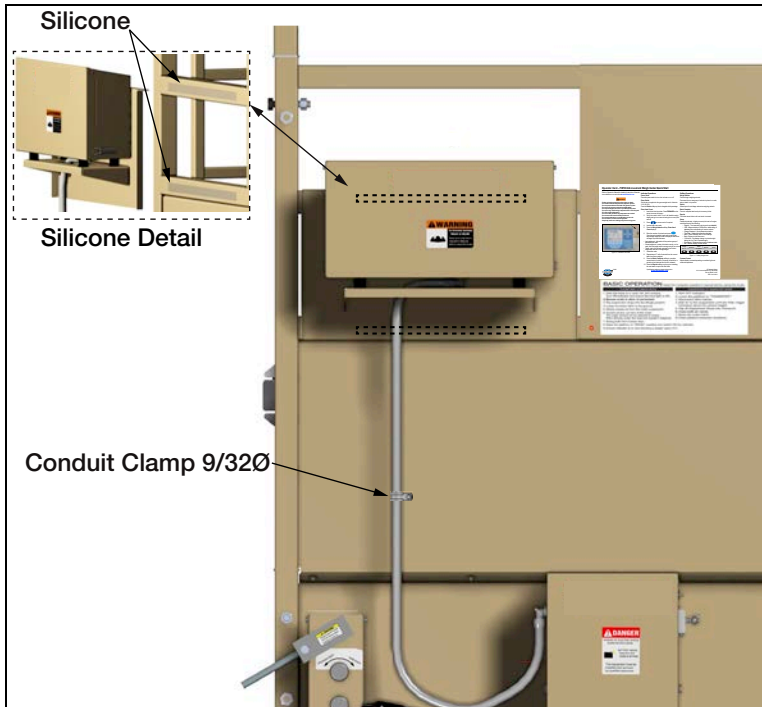
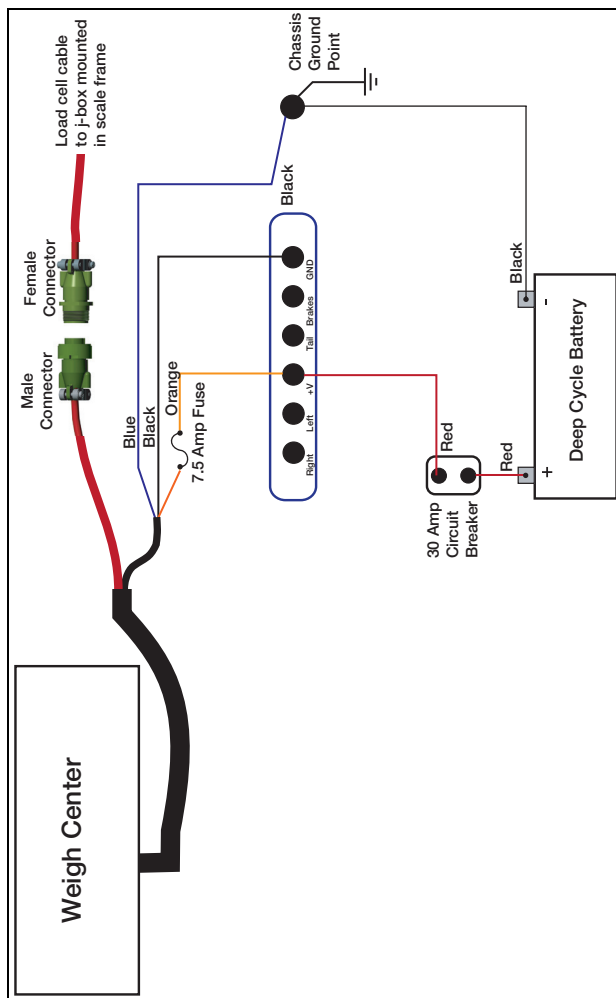

Figure 1-9. Weigh Center Mounting
Figure 1-10. Wiring Diagram
Use the following steps to mount the 920i Weigh Center to the animal scale (see Figure 1-9 on page 11 and Figure 1-10 on page 12).
2. Connect the power wires as shown in Figure 1-10 on page 12.